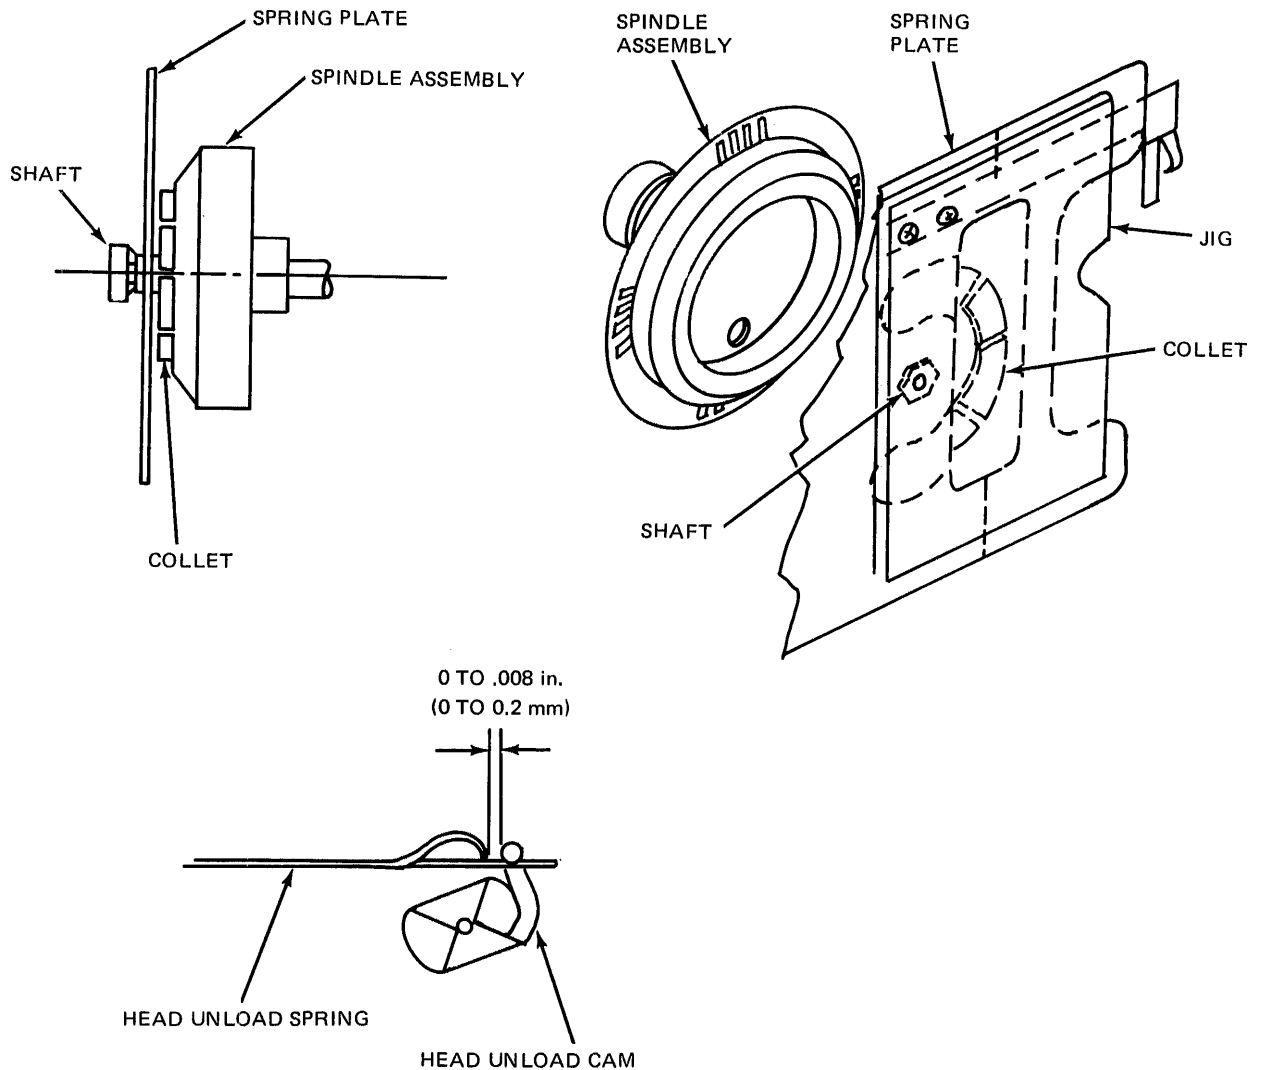

Figure 4-2 Replacing the Collet Assembly
- d. Replace the head unload spring. The clearance between the arm on the head load cam and the head unload spring should be 0 to .008 inches (0 to 0.2 mm) (see Figure 4-2).